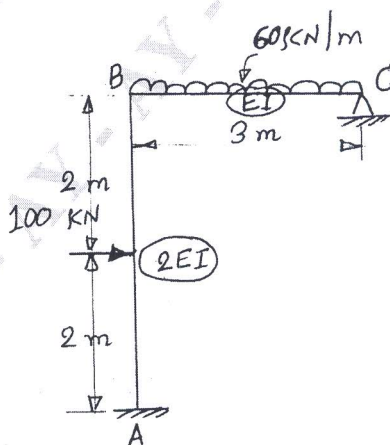

Fig Q3
- 3 Analyse the frame shown in Fig Q3 by flexibility method using Force – Transformation matrix. Take reactions at C as redundant.